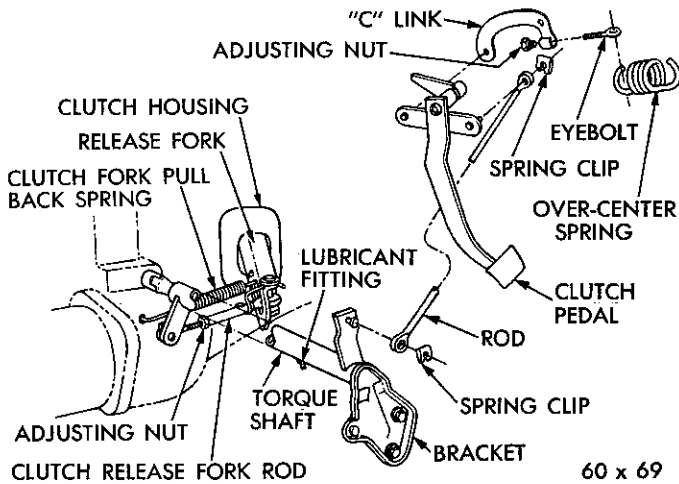

Fig. 2—Clutch Pedal and Linkage Assembly
The clutch pedal free play should be maintained at 1 to 1¼ inches. The adjustment is made by adjusting the length of the clutch release fork rod (Fig. 2).
(1) Remove the spring clip and pedal rod from the torque shaft lever (Fig. 2).
(2) Remove the clutch fork pull-back spring.
(3) Remove the spring clip and clutch release fork rod from the torque shaft lever.
(4) Remove the torque shaft support bracket attaching bolts.
(5) Pull the torque shaft away from the stud on
The length of the clutch release fork rod (Fig. 2) should be adjusted to permit 1 to 1¼ inches of pedal pad free travel before the release bearing contacts the release levers.
(1) Hold the clutch pedal down while making the adjustment.
(2) Back off the over-center spring adjusting nut until it is free of the "C" link (Fig. 2).
(3) Turn the nut until it is finger tight against the "C" link.
(4) Turn the nut an additional five turns tighter than finger tight.
(5) Test the action of the clutch pedal after operating the clutch several times. The pedal should return completely. If the pedal hangs up in the free-play distance (1 - 1¼ inch initial travel) screw the bumper out and tighten the lock nut. If the initial effort to start the pedal moving (breakaway load) is more than 5 to 7 pounds, screw the bumper in and tighten the lock nut. This adjusting screw is located below and at a right angle to the "C" link and spring.